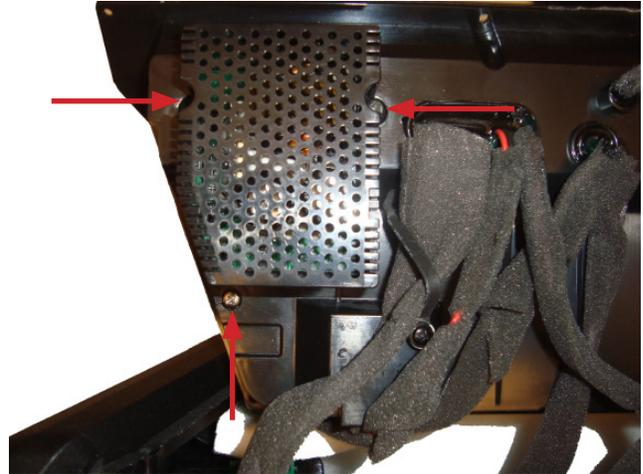

Figure 18
6.1 Remove the three screws indicated by the arrows as shown in figure 18.